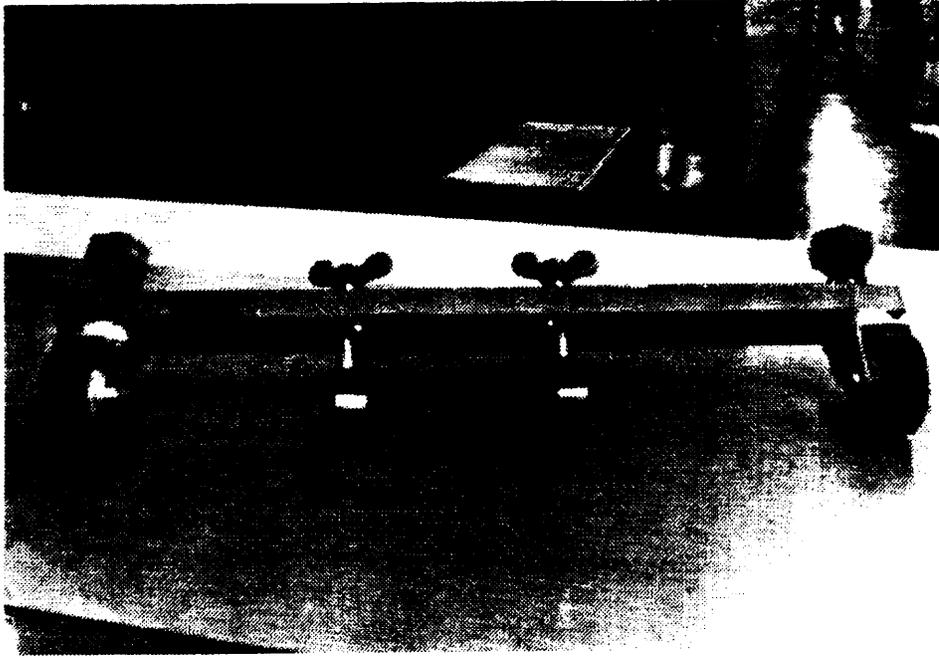

Figure 23. Use of the Dolly, Step 1.
- (a) With the frame standing erect, insert the two sections of the dolly through the space between the bottom frame file and the channel base support (Figure 23).